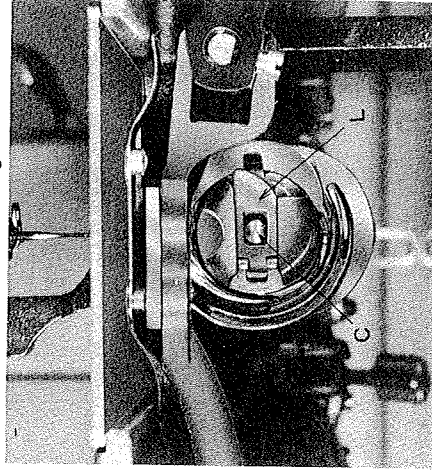

Fig. 6
- 1) Take the thread bobbin case by the latch (L) and place it on the center stud (C) (Fig. 6) of the bobbin case holder.